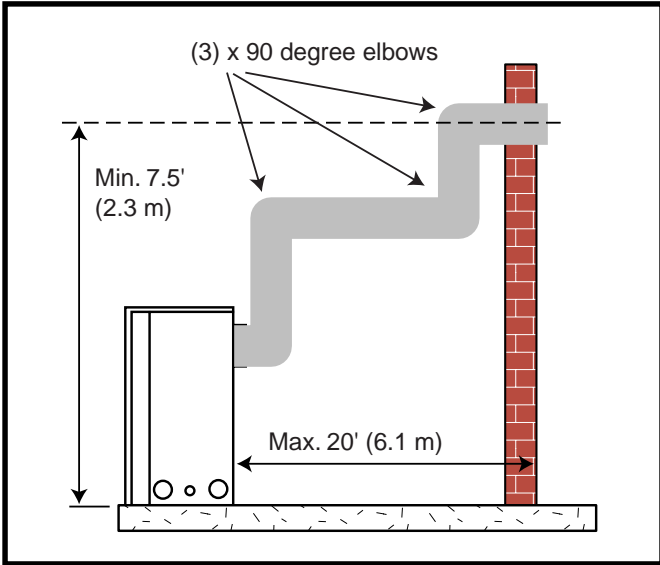
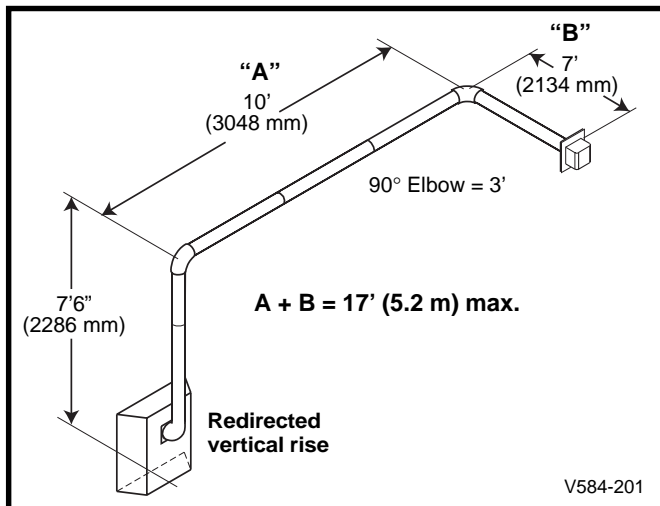

Fig. 20 Maximum three (3) 90° elbows per installation.
Fig. 22 Maximum vent run with elbows.
- The maximum number of 90° elbows per side wall installation is three (3) (Fig. 20).
- If a 90° elbow is used in the horizontal vent run (level height maintained), the maximum horizontal vent length is reduced by 36" (914 mm) (Fig. 22). This does not apply if the 90° elbows are used to increase or redirect a vertical rise (Fig. 20).
As shown in Fig. 22, the total of dimension A and B is not to be greater than 17' (5.2 m).